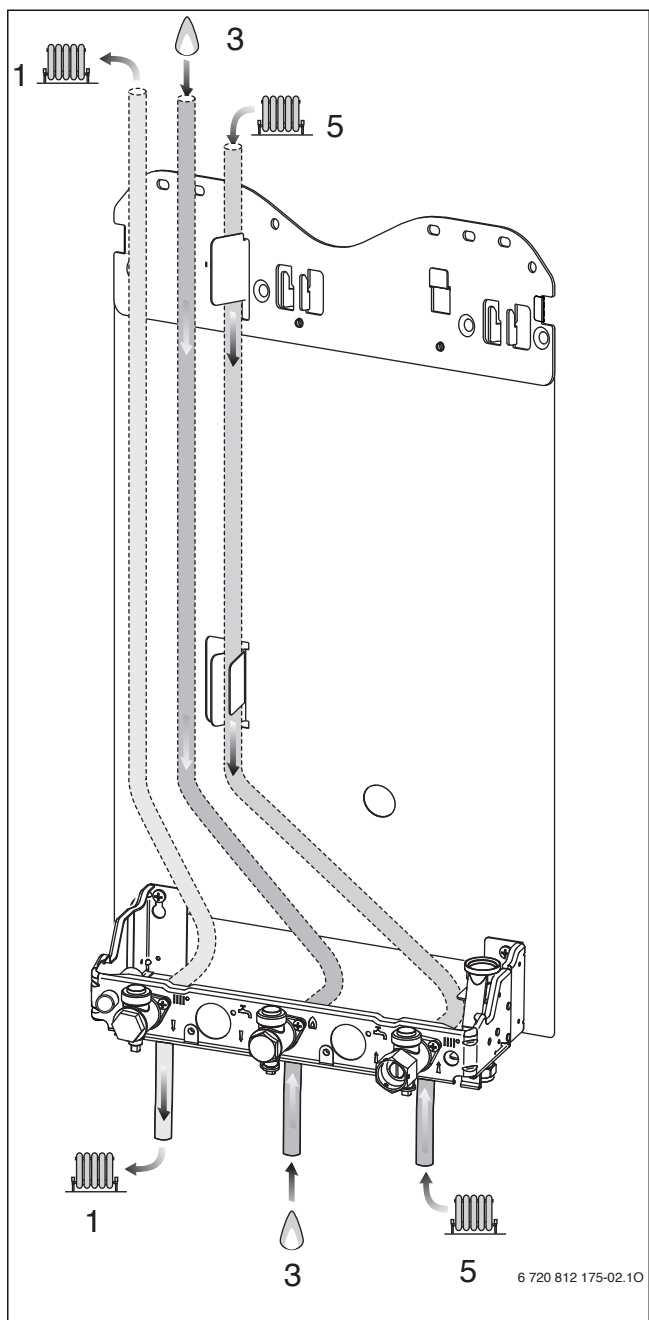

Fig. 19 Without optional diverter valve
- ▶ **If no diverter valve is fitted** install the pipe work as shown in figure 19.